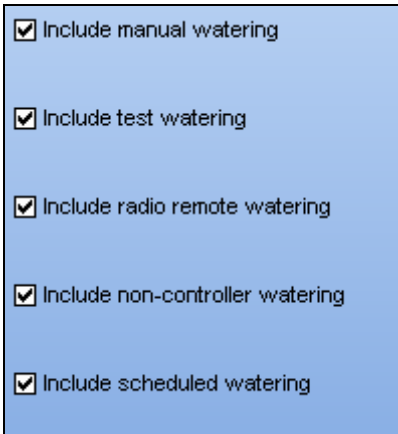

Figure 27.0.7
- Next click on the box for each item from the **Water Usages** list that you would like to include in your report (Figure 27.0.7).